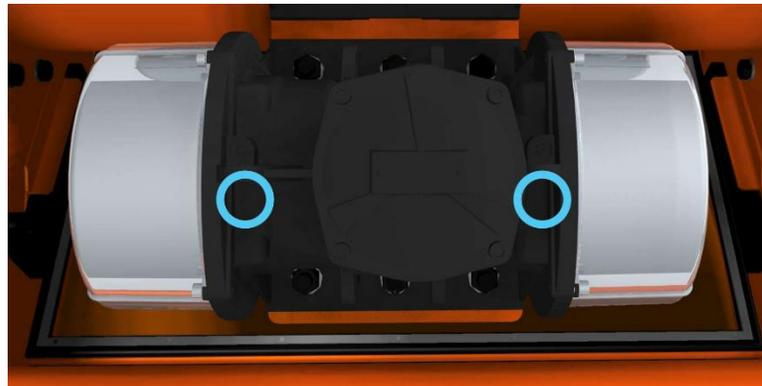

Figure 29. Grease Fittings (Circled)
4. Remove plugs, one for each bearing (Refer to Figure 29).